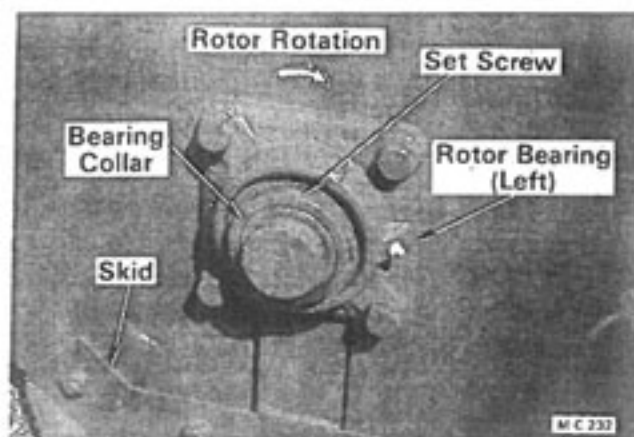

Figure 39
2. Clean the end of the rotor shaft with emery cloth. Remove the two set screws in the bearing lock collar and four capscrews securing the bearing to the Shredder body, see Figure 39, and slide the bearing off of the rotor shaft.